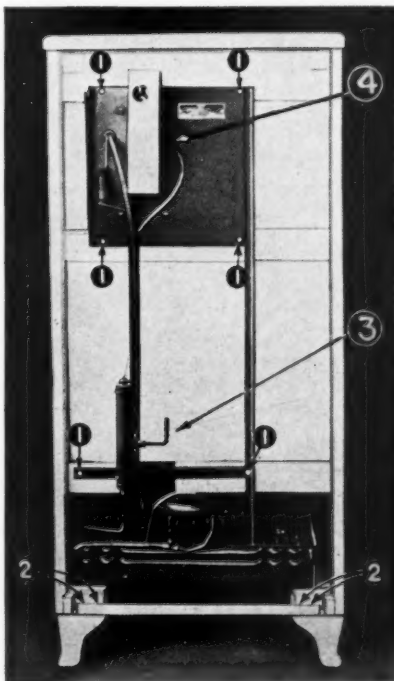

Fig. 7—Rear view of cabinet with unit in place.
To add refrigerant to the system it is necessary to remove the pinched off charging connection shown in Fig. 7 and solder in a new charging line to which your gauge and drum may be connected. Methyl chloride should be added and the unit permitted to run until frost appears on the return line. When the evaporator is down to temperature
The complete control switch is mounted on the unit frame and located in the unit compartment or flue at back of refrigerator. See Fig. 7. It consists of—
5. Replace the six wood screws which secure unit to cabinet frame at points designated (1) Fig. 7.
6. Replace bottom cross rail, tighten screws at (2)—then mount back panel.